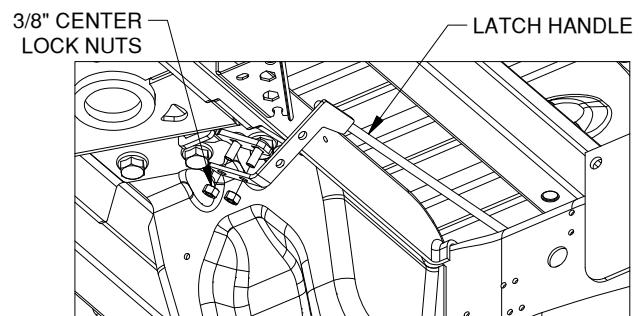

Figure D2: Looking back at driver side of center section.
- 2. Install the latch pin handle.** Beginning under the vehicle, "thread" the end of the handle, with the vinyl grip, in front of the brake lines and over the frame on the driver side. Attach the handle to the latching mechanism over the 3/8 carriage bolts with two 3/8 locking flange nuts, see figure D2. Be sure that the handle is in the proper position and that it does not interfere with any other components of the vehicle. Torque the nuts to 30 ft. lbs. to secure the handle.